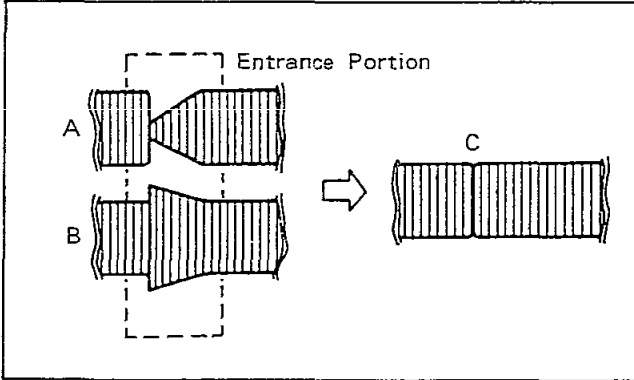

Fig. M8
3. If the RF envelope appears like example "A" or "B" in Fig.M8 then adjustment of the tape guide post (P2:Entrance) is necessary.
4. Adjust the tape guide post (P2) with the post adjustment screwdriver so that the RF envelope waveform at the entrance portion becomes flat as shown in Fig.M8--"C".